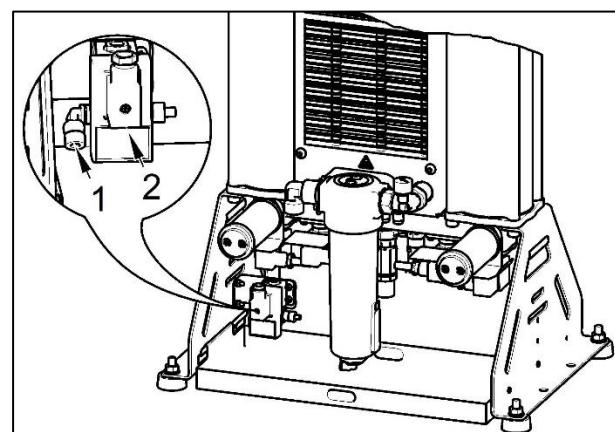

Fig. 7: Condensate drain
- Connect a hose to the outlet (1) from the automatic condensate drain (2) to drain piping or to the provided collection vessel (Fig. 7).